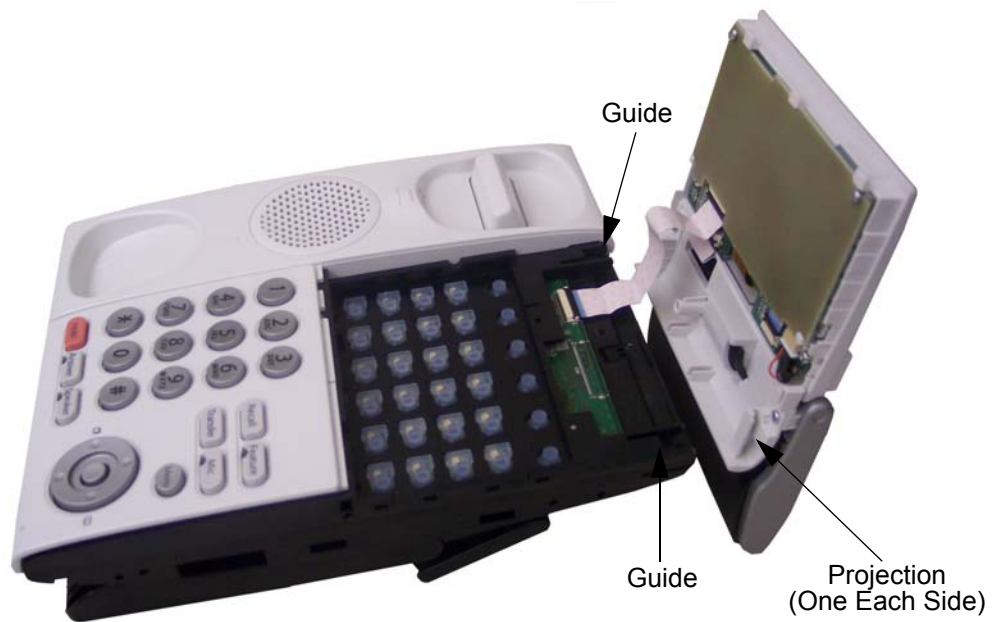

Figure 5-98 Ribbon Cable Installed
7. Plug ribbon cable on back of 8LKI (LD)-L UNIT into connector (metal side down) until pressure is felt.
8. Press down on the black bar to lock the cable into place (refer to Figure 5-98 Ribbon Cable Installed on page 5-94).
9. Align the projections on the bottom of the 8LKI (LD)-L UNIT into the guide holes on top of the multiline terminal (refer to Figure 5-98 Ribbon Cable Installed).